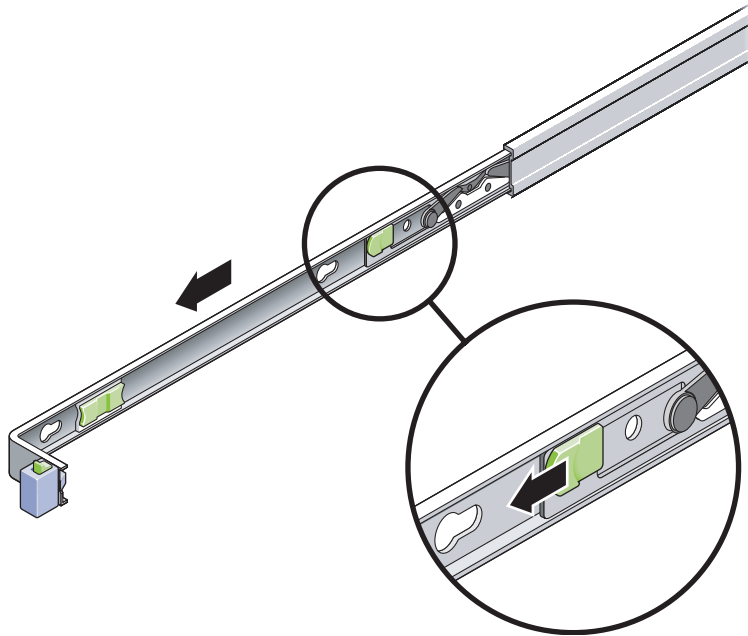

FIGURE 2-12 Location of the Mounting Bracket Release Button
- c. Slide the mounting bracket release button in the direction shown in FIGURE 2-12, and then slide the mounting bracket out of the slide rail.